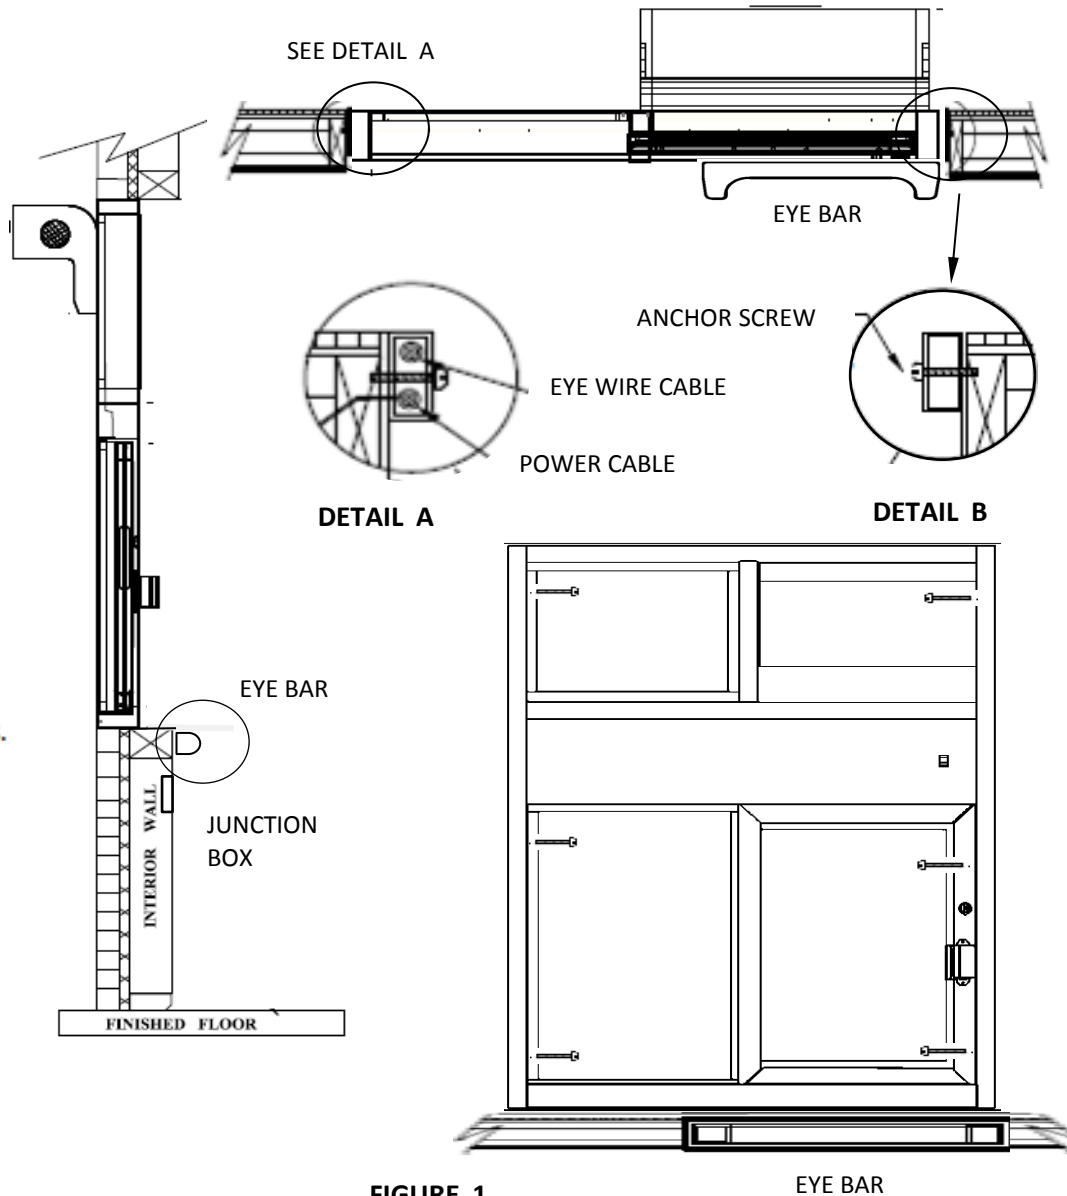

FIGURE 1
- 2) Anchor through each side jamb at three places approx. 5" at top and bottom of each jamb as well as the middle of each jamb.(See Fig. 1)
Eye set to be mounted directly below the service opening. Bar to be mounted on the wall. The outside edge of the eye bar be lined up with the outside edge of the side jamb of the operating door. (See Figure 1)